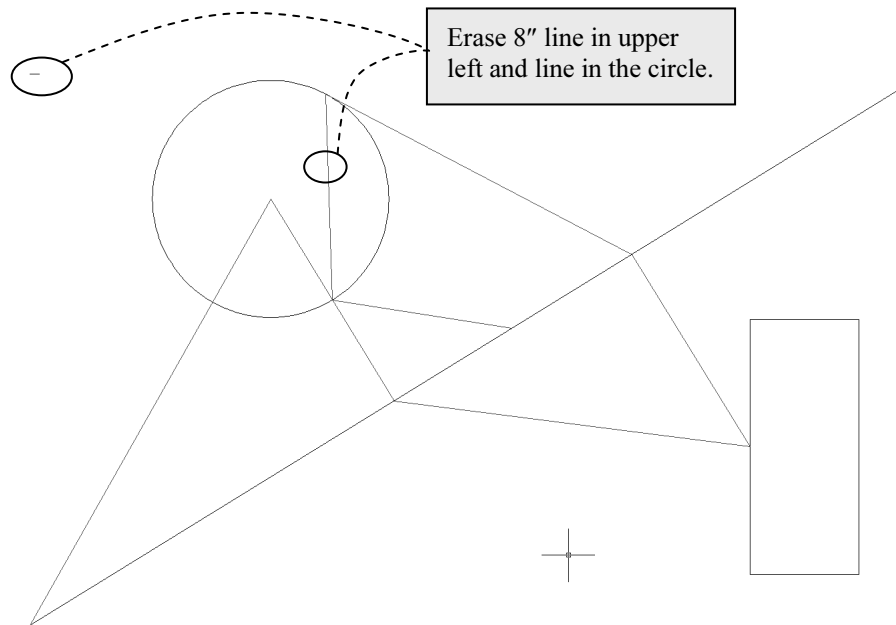

Figure 3-3.2 Lines to be erased
3. While holding the Ctrl key, use the *Modify* tool/mode to select the lines identified in **Figure 3-3.2**.
TIP: See the section below Figure 3-3.2 on *Selecting Entities*.